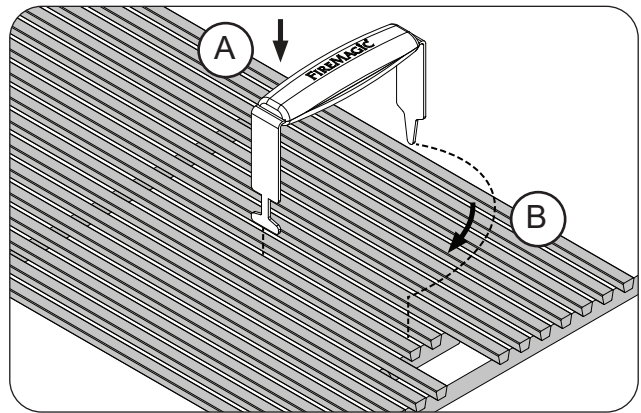

Fig. 32-1 Install cooking grids
1. With the prongs facing downward, insert the notched-end of the lifter between two grid rods, then rotate, as shown in Fig. 32-1, A & B.
2. Insert the rear pointed-end of the lifter between the same two rods (Fig. 32-1, B) and carefully lift the cooking grid and place onto the front and rear grid rests of the grill (see Fig. 32-2). Repeat for all other cooking grids. **INSTALL THE DRIP TRAY**